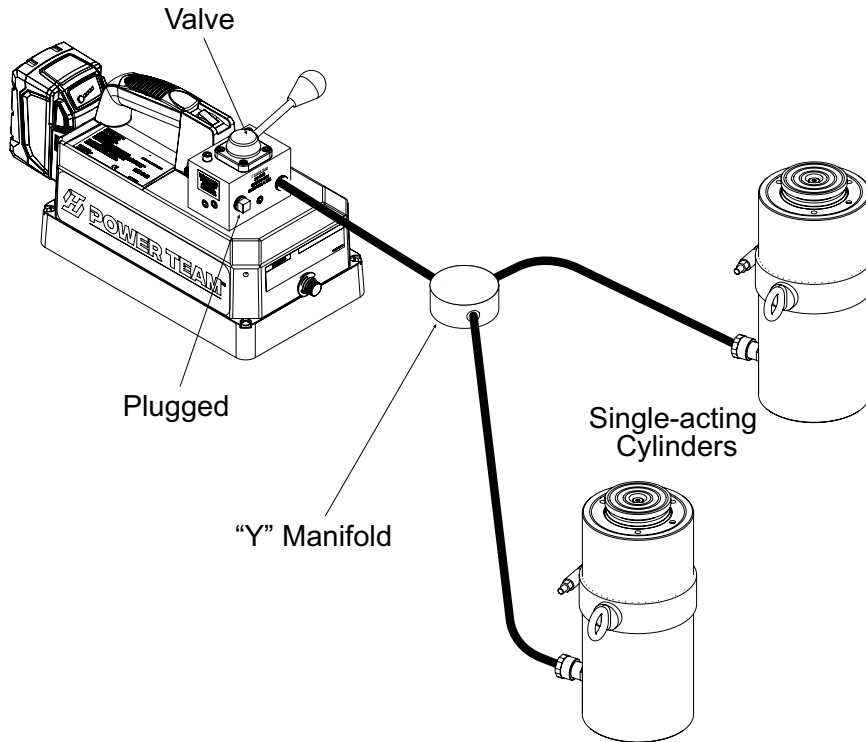

Fig. 12. Single-Acting Cylinder(S) in the Circuit Controlled by a Pump-Mounted Valve
Used with single-acting and double-acting cylinders (Refer to figures 12 and 13).
- If this valve is to be used as a 3-way with single-acting cylinder(s), one port must remain plugged (use steel plug). (See figure 12).